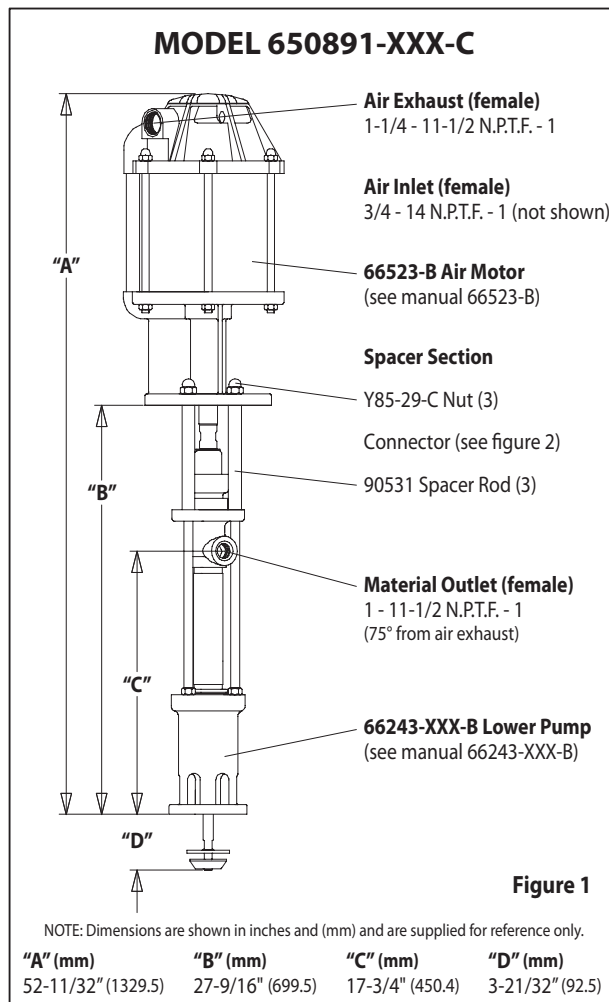

Figure 1
2. Remove the three (Y85-29-C) nuts from the three spacer rods (see figure 1).